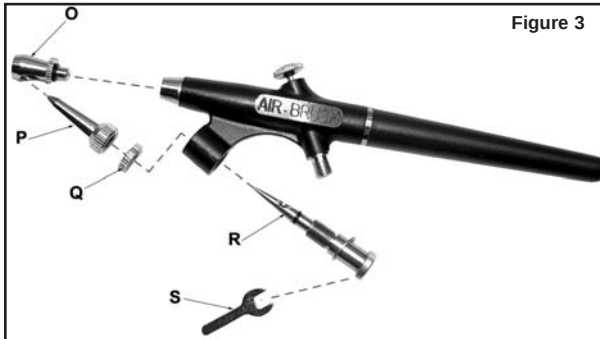

Figure 3
1. Disassemble the air brush by using the following procedure (see figure 3):
- a. Hold fluid cap (P) and locknut (Q) with the thumb and index finger.
- b. Using the wrench provided (S), place on the flat surface of the fluid needle (R) and turn counter clockwise.
- c. Remove fluid needle (R).
- d. Clean the fluid needle (R), fluid cap (P) and air tip (O) with a piece of cotton dipped in thinner or approved solvent. A fine bristled brush will also work.